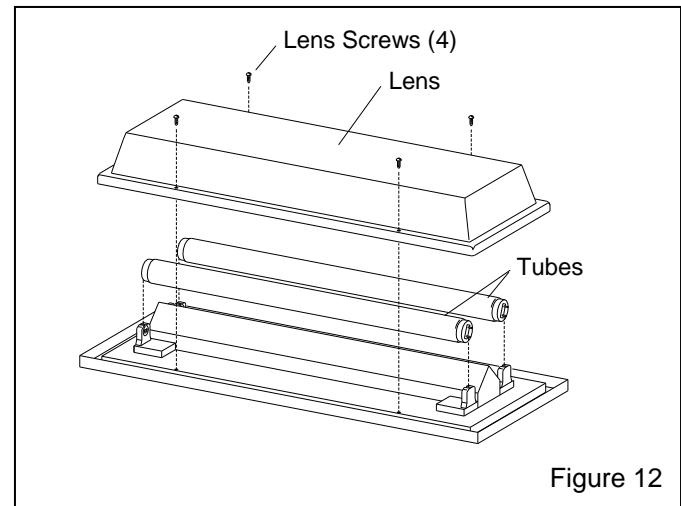

Figure 12
7.6.3.2 Flip the assembly over to access the lens screws, ref. Figure 12.